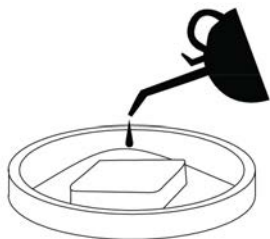

Figure 22
9. Once the air filters are dry, coat the air filters with clean engine oil (see Figure 22).